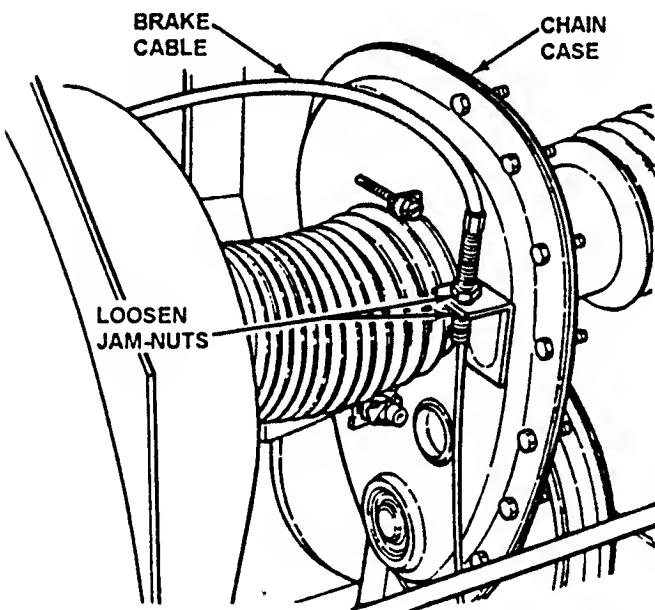

FIGURE 4.19
4. If measurement is less than 1/2" or greater than 3/4", loosen the two jam-nuts (shown in Figure 4.19) holding the clutch/brake cable to the chain case bracket.